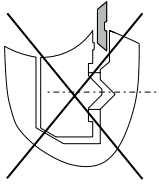

Fig. 3: Incorrect indexable insert position
- Install the indexable inserts and all clamping components. Always place the indexable insert into the pocket in the correct position—see figures 3 and 4.